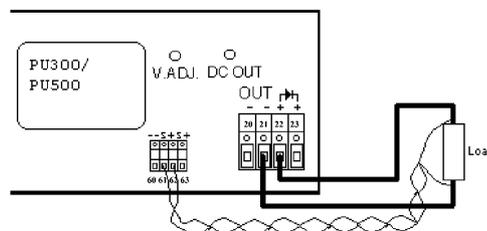

Figure 6. External sense.
- Connect a twisted-pair (0.25mm2 -1.5mm2) between the sense terminals of the converter and the load, see Figure 6. The sense leads and the power cables shall be of approximately the same length and drawn as close to each other as possible. **Beware of correct polarity!**